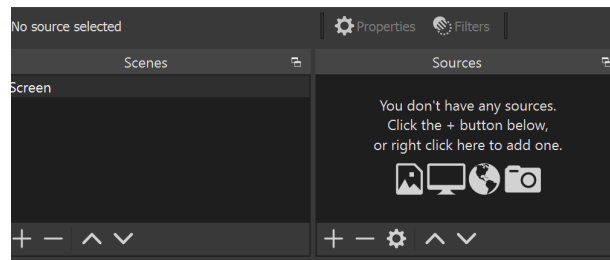

Figure 15 Editing sources for OBS.
3. In OBS, ensure that there are no Sources currently listed. If there is one, you can delete it by highlighting it and pressing the “-” button below the Source list (see Figure 15).